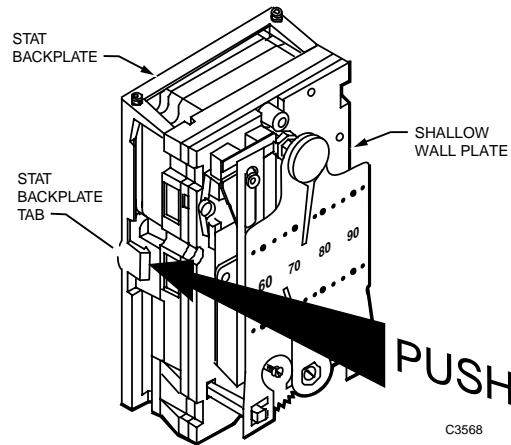

Fig. 51. Loosening Stat Body from Conventional Backplate.
1. Move backplate tab outward (Fig. 51), using Thermostat Tool CCT735A (MQT735A) if necessary.